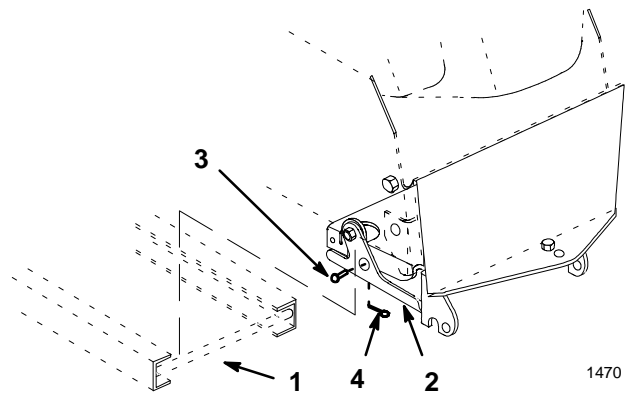

Figure 8
5. Open latch levers and lift frame into position at rear hitch. Close latch levers and secure closed with 1/4 x 3/4" (19 mm) clevis pins and small hairpin cotters (Fig. 8).
6. Secure latch levers with clevis pins and small hairpin cotters (Fig. 8).